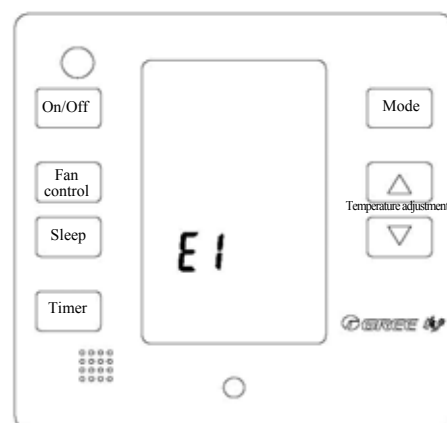

Fig 7
- When malfunction occurs while the system is running, the hand controller will display the malfunction code. The display as shown in Fig. 7 indicates compressor high-pressure protection. When the controller displays malfunction, please turn off the unit to stop the malfunction display. Ask specialized serviceman to eliminate the malfunction.